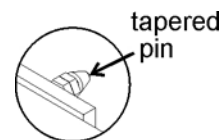

Figure 3-1. Pin
1. Pull universal platform from the cabinet. At the back of the platform are two tapered pins (Figure 3-1).